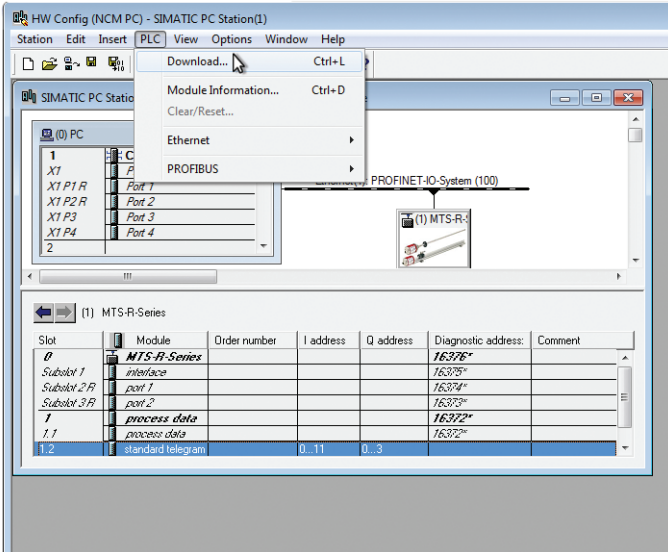

Fig. 50: Transfer settings to the control system (source: Siemens)
8. Transfer your settings to the control system as described below (Fig. 50):